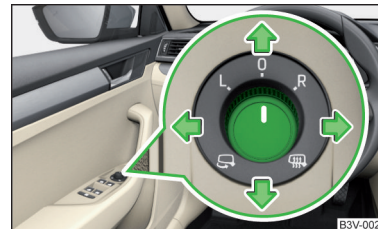

Fig. 63
► Move the rotary knob in the direction of arrows » Fig. 63.